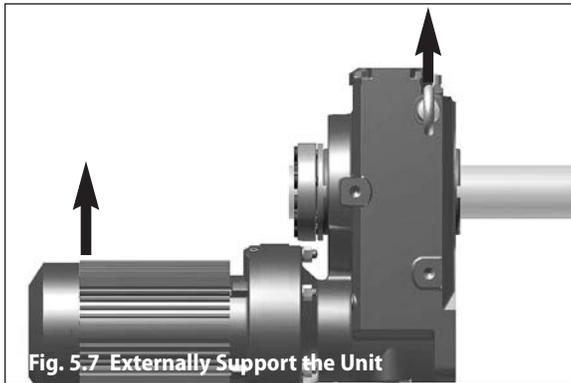

Fig. 5.7 Externally Support the Unit
Step 1 – Before removing the reducer/gearmotor from the driven shaft, externally support the unit so that all its weight is removed from the driven shaft (see Fig. 5.7). **Caution: Do not raise the unit too high. It may cause the shaft to bind.**